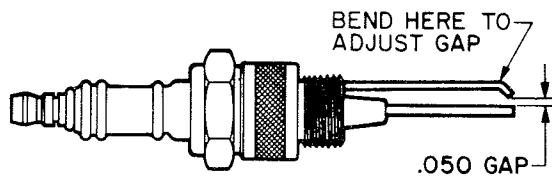

Figure 4. Spark Plug Gap Setting.
2. Remove the spark plug from the burner head, and check the gap between the electrodes. The gap must be within the limits shown in Figure 4.
3. Adjust the gap by bending the outside electrode where shown in Figure 4. If you do not install the plug immediately, protect it from damage until it is reinstalled.
Spark plug dirty or not properly gapped.	Reset spark plug after cleaning, according to dimensions in Figure 4.